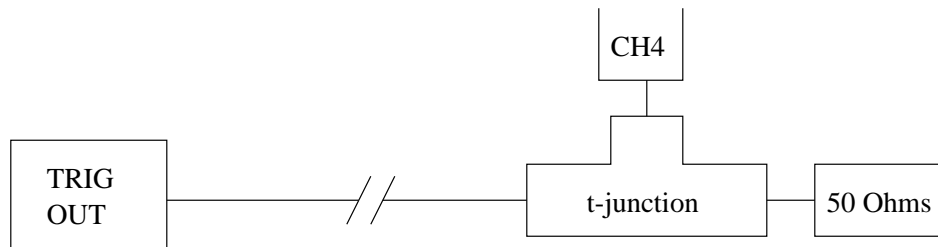

Figure 4: Connection of the trigger to channel 4 of the scope with a t-junction and 50Ω terminator.
1. Plug the TRIG OUT of the pulser into a channel of the scope (for example channel 4). Ensure that there is no impedance mismatch. If an impedance mismatch exists, the setup will work sporadically at best. If a 50Ω cable needs to be plugged into a $1M\Omega$ port, such as channel 4, use a t-junction and a 50Ω terminator. See figure 4.